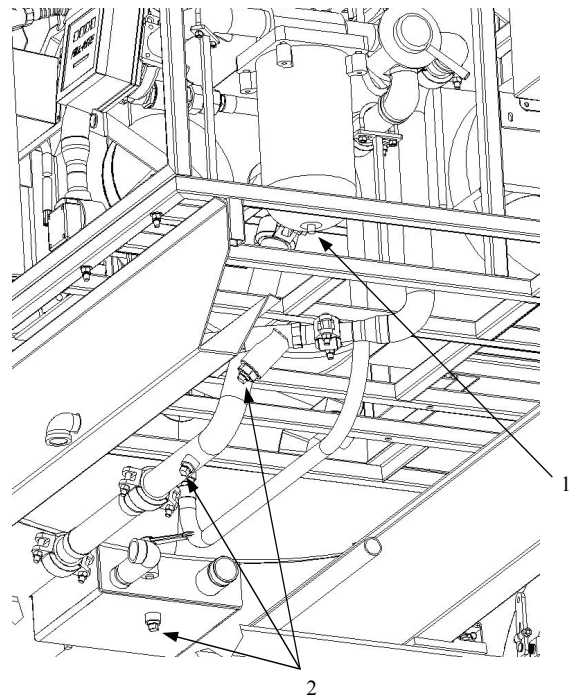

Figure 4-7. Drain Points
4.8.3 Draining the HANDIFUELER. The tank drain is located at the rear of the tank assembly. (See Figure 4-7).
- e. Open petcock drain on filter (see Figure 4-7, 1) to drain fuel from filter housing.
- f. Remove pipe plugs (see Figure 4-7, 2) to drain fuel from the plumbing system.